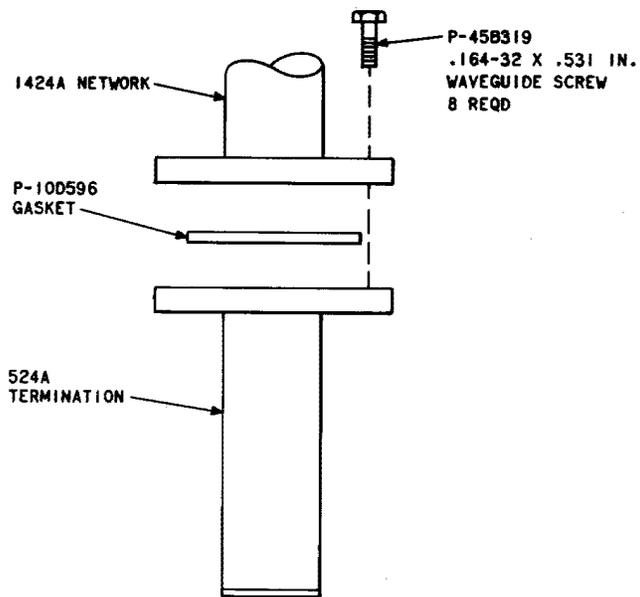

Fig. 15—Installation of 524A Termination
**2.36** When a water trap is not used on the bottom port of a 1424A network, the port must be terminated with a 524A termination. The 524A termination is installed as shown in Fig. 15 using the hardware supplied.